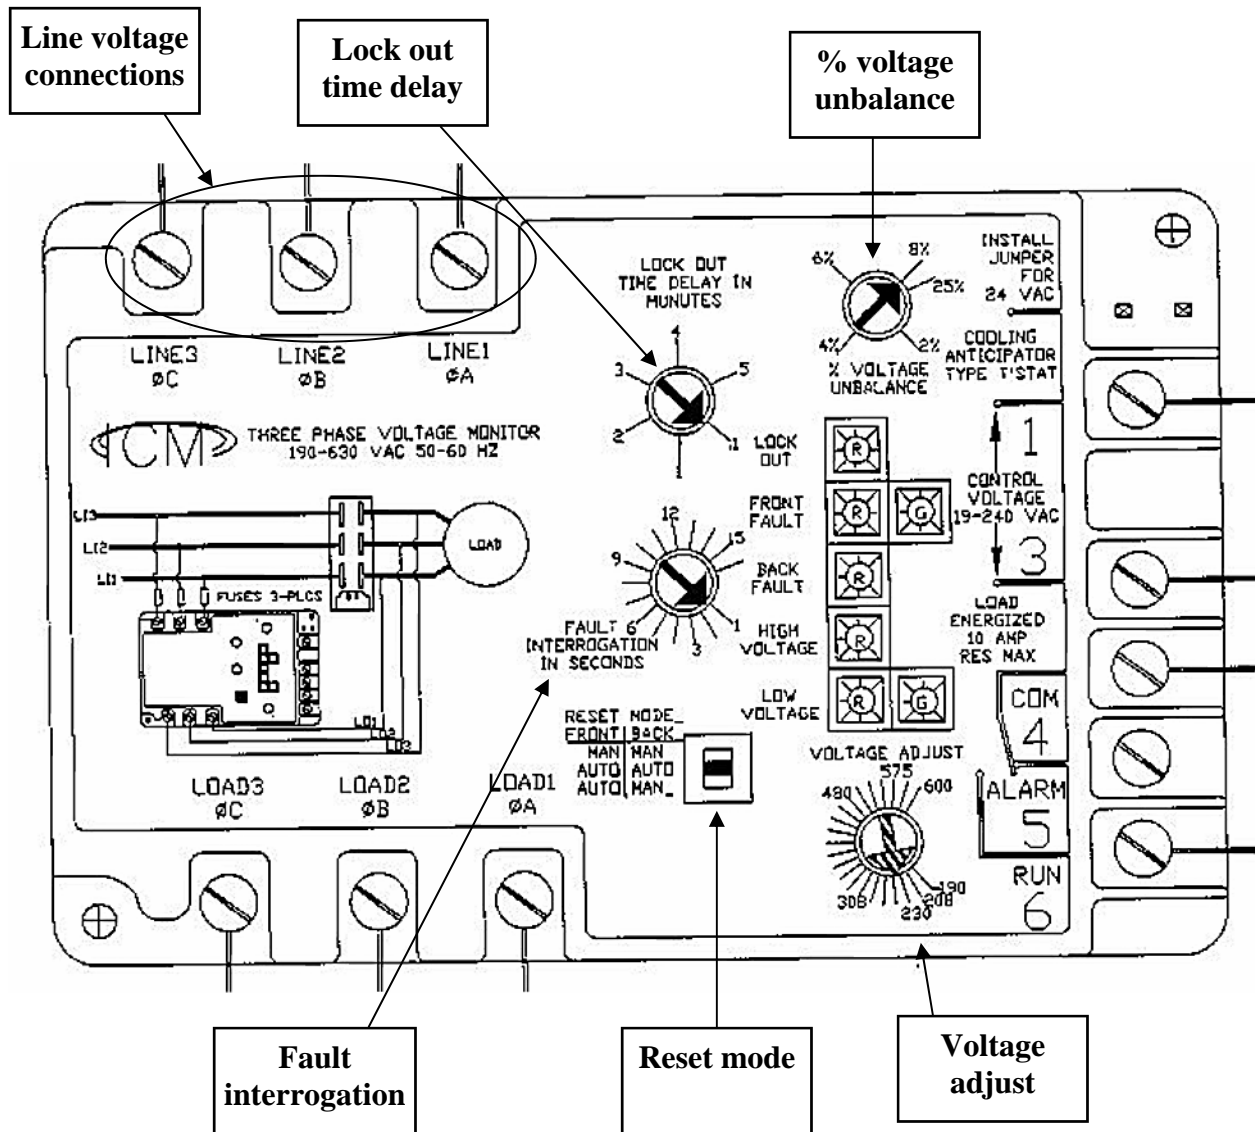

FIGURE 1
Step 2: Locate the phase monitor: Using a flat blade screw driver, carefully open the chiller control cabinet door. Once the door is open, locate the ICM “Three Phase Voltage Monitor” . **Figure 1 on the next page provides an image of the monitor**